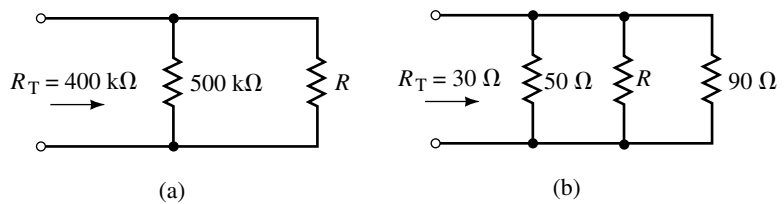

FIGURE 6–59
14. Determine the value of each unknown resistor in the network of Figure 6–60, so that the total resistance is $100\ \text{k}\Omega$.